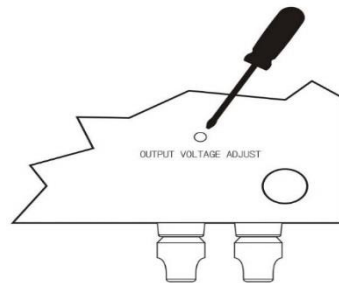

Fig.1
2. Turn the power supply over with the bottom up and connect a digital multi-meter (DMM) with at least 2 decimal read out to the main output terminal (4).
3. Locate the fine tune access hole (8) on the bottom as shown in Fig.1.
4. Insert a slim flat head screw driver to get to the trimmer as shown in Fig.1.